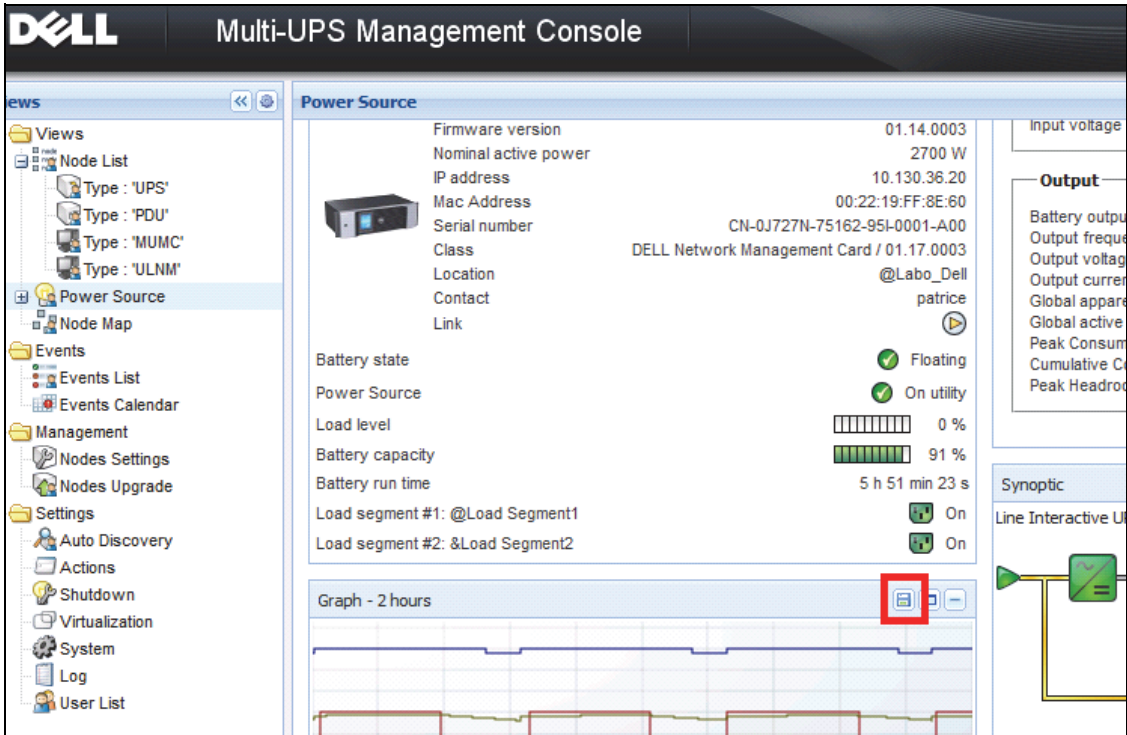

Figure 53. Export Graph Data Button in Graph Panel
- To export data shown in the graph panel using the export data  button (see Figure 53).